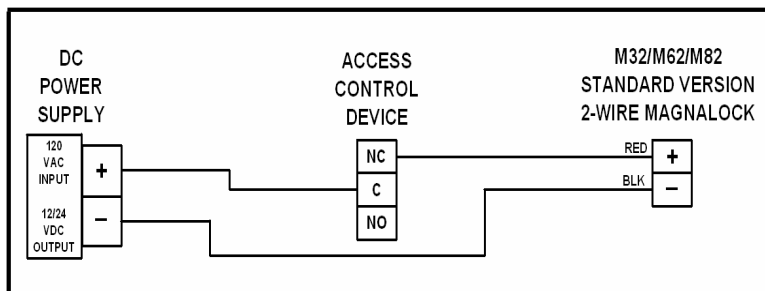
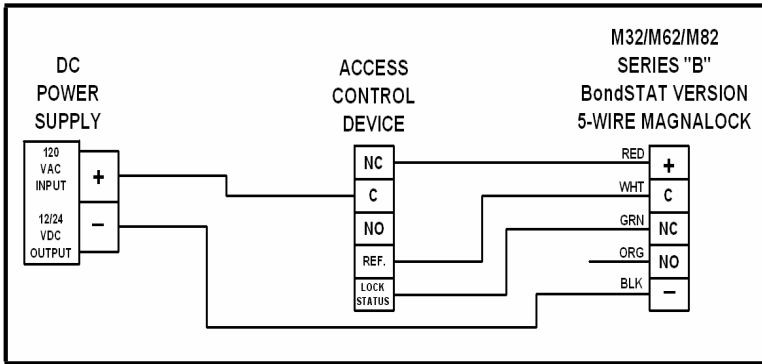
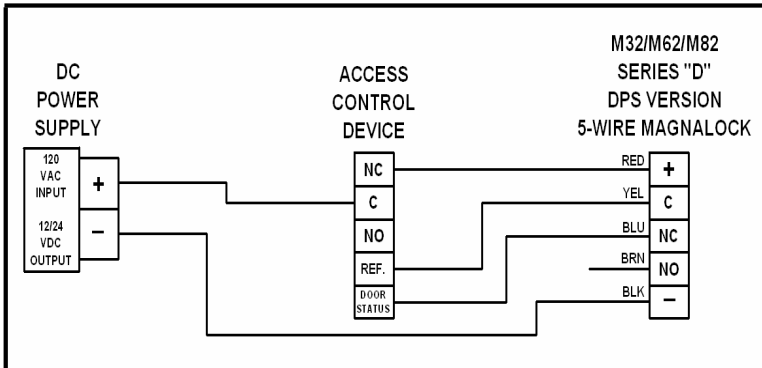
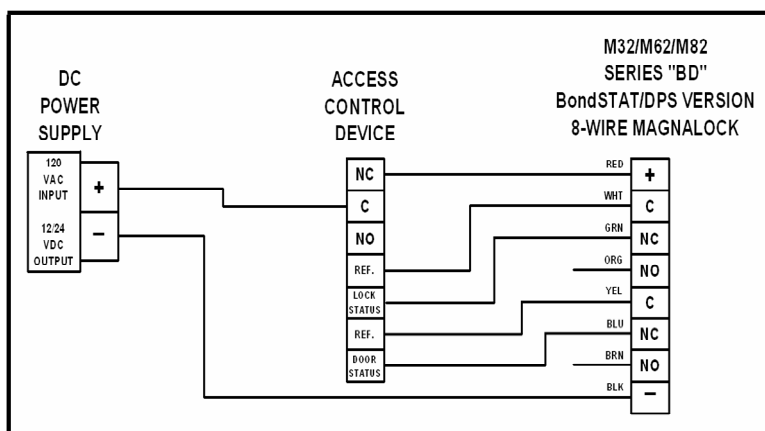

Figure 20. Typical Magnalock Wiring
Figure 21. Connections for BondSTAT "B" Version
Figure 22. Connections for DPS "D" Version
Figure 23. Connections for "BD" Version
6. CONNECT the wiring per Figure 20, "Typical Magnalock Wiring," Figure 21, "Connections for BondSTAT 'B' Version," Figure 22, "Connections for DPS 'D' Version," and Figure 23, "Connections for 'BD' Version."
- NOTE 1:** In Figure 21, the green and white wires supply electrical connection when the lock is ON and secure.
- NOTE 2:** In Figure 21, the orange and white wires supply electrical connection when the lock OFF or unsecure.
- NOTE 1:** In Figure 22, the blue and yellow wires supply electrical connection when the door condition is closed.
- NOTE 2:** In Figure 22, the brown and yellow wires supply electrical connection when the door condition is open.